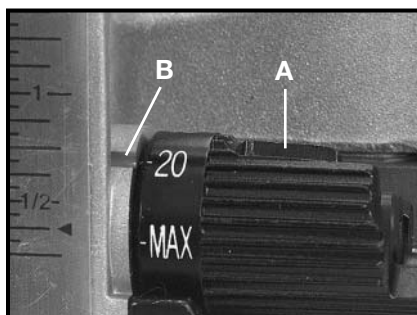

Fig. 2
A “quick set” depth adjusting turret (A) Fig. 2, provides for quick changes in depth of cut to accommodate the various sizes of available biscuits and other accessories. To set depth of cut: rotate depth adjusting turret until desired size marking on turret aligns with the index mark (B) Fig. 2. The following depth settings are provided: